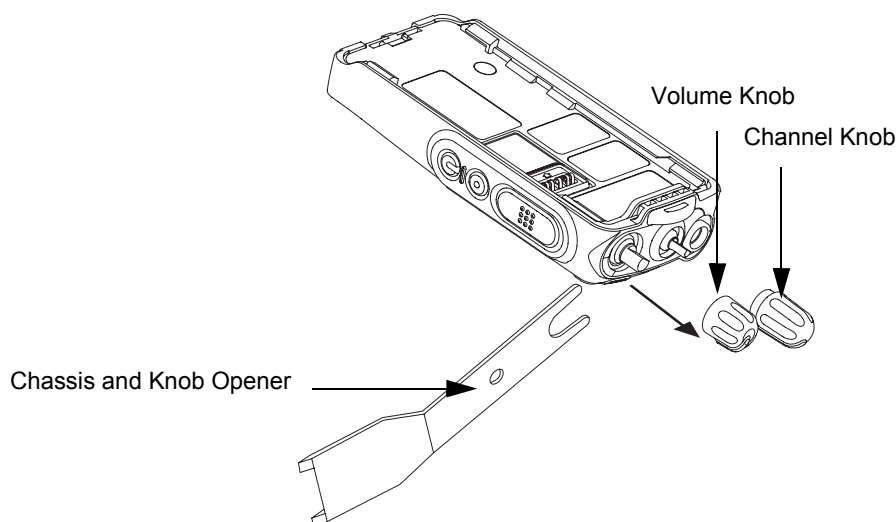

Figure 6-3. Knobs Removal
3. Remove the Antenna (22) by turning it counterclockwise.
4. Remove the Volume Knob (7) and Channel Knob (8) from their shafts using the Chassis and Knob Opener. (Refer Figure 6-3).